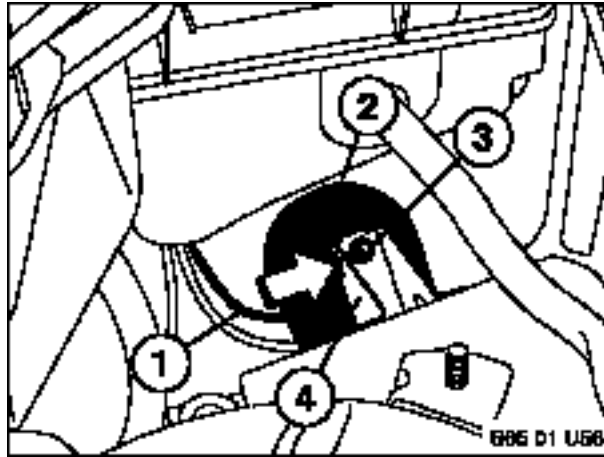

Figure 5
- 1.8 See Figure 5. Position alarm siren (2) to mounting bracket (4) as shown.
- 1.9 See Figure 5. Secure alarm siren (2) to bracket (4) with M6 nut with captive flat washer (3).
1.10 See Figure 5. Connect 4-position alarm siren connector (1) to alarm siren (2).